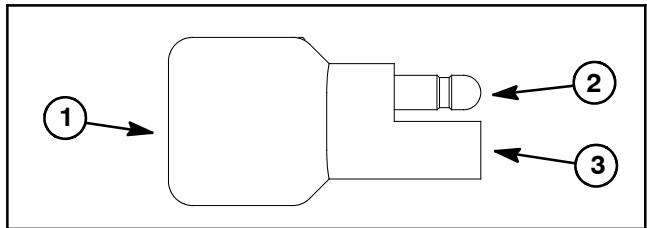

Figure 24
5. The diode (Fig. 24) can be tested using a digital multimeter (diode test or ohms setting) and the table in the right column.